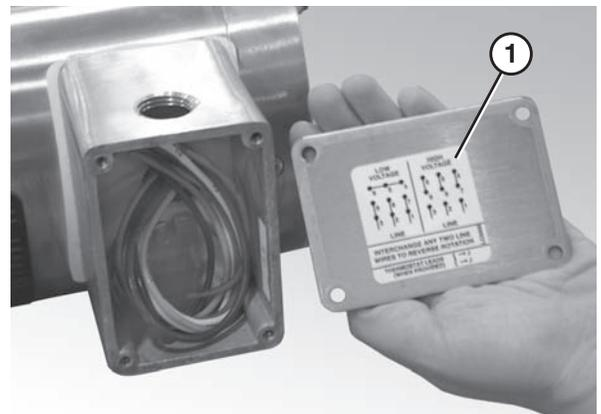

Figure 43
- Refer to the wiring diagram (Figure 43, item 1) on the inside of the junction box cover.